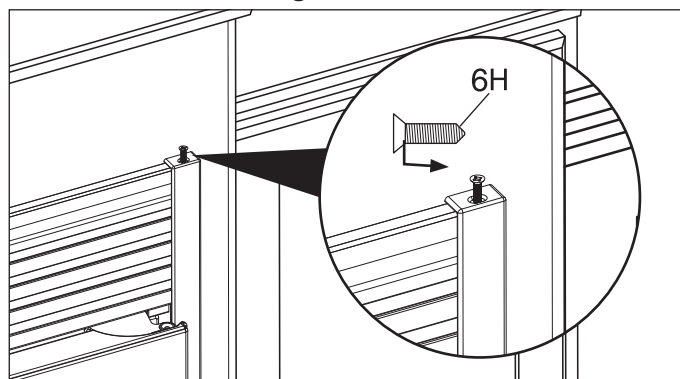

Figure 2-29.
- Fasten screws to top trim. (See Figure 2-29)